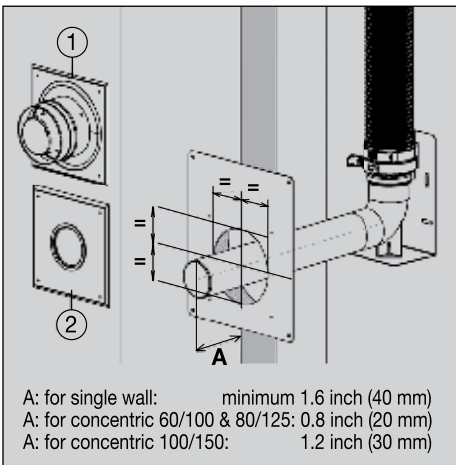

Figure 10, Mounting the Wall Plate
12. Mount the wall plate on the wall of the shaft (**Figure 10**). Pay attention to the correct slope of 3°. The pipe of the support elbow must be in the centre of the hole in the wall plate (**Figure 10**).
13. Depending on the type of system, single wall or concentric, the support elbow can be shortened. For single wall, the length A (**Figure 10**) must have a minimum length of 1.6" (40mm). For concentric the length A (**Figure 10**) must be 0.8" (20mm).
14. Fix the correct version of the shaft connector to the wall plate (see 1, **Figure 10**).